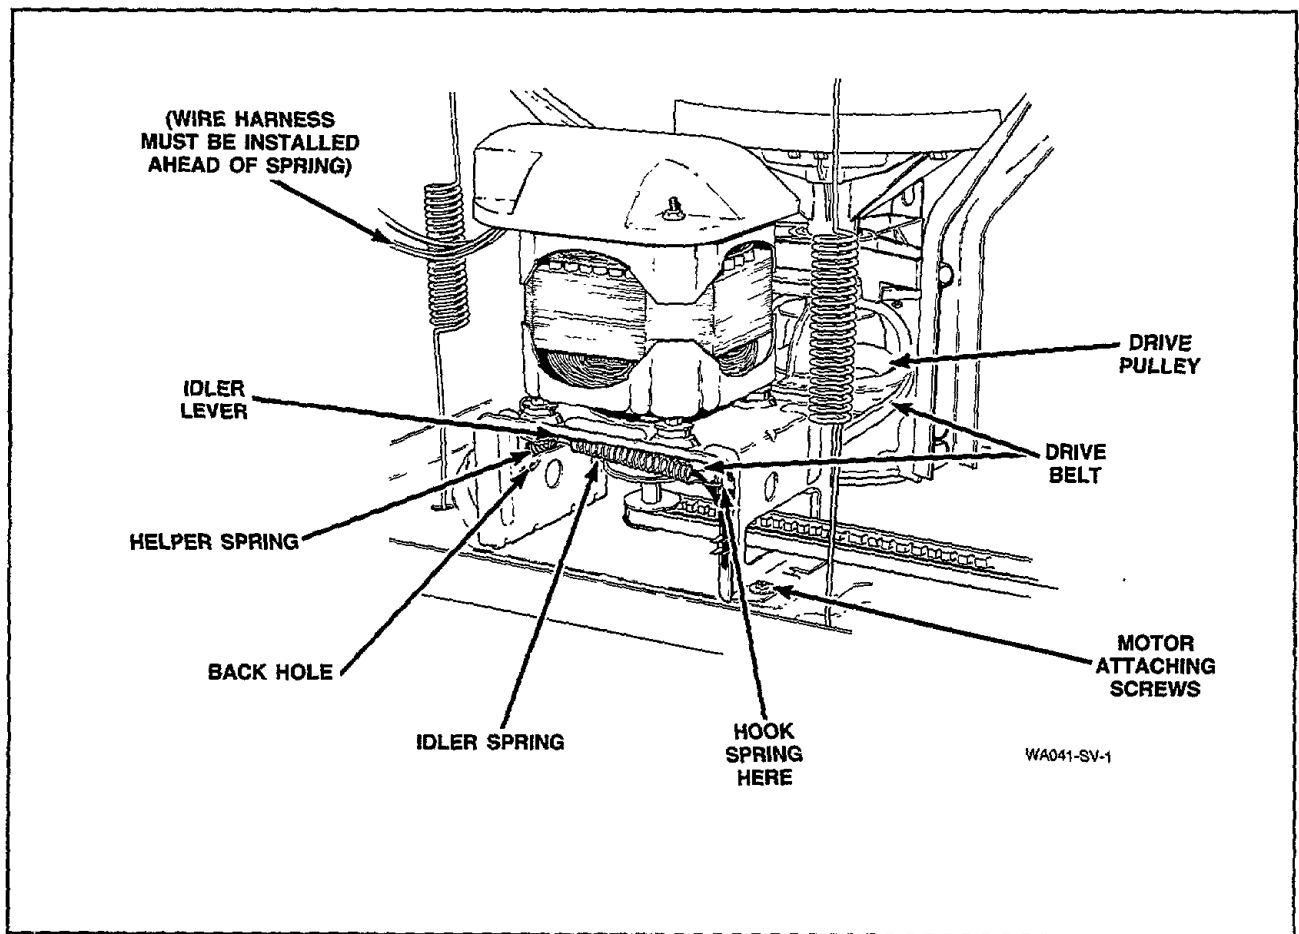

Figure 51
- g. Reconnect idler spring to the clip on motor mounting bracket, and the helper spring into back hole in mounting bracket, *Figure 51*.